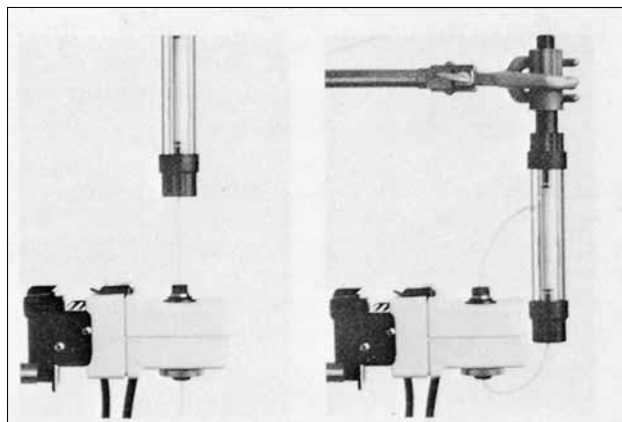

Fig. 12. Connection of the column to the two flow cells
3. Screw the column outlet tubing directly into the top of the Optical Unit for 5 mm flow cell or the bottom for 2 mm flow cell (Fig. 12). Both connections provide all upward flow direction in the cell. i.e. minimizing the risk of trapping air in the flow cell. Screw to fingertightness. Check for leakage when starting to run, and if necessary tighten the tubing further with the supplied wrench.